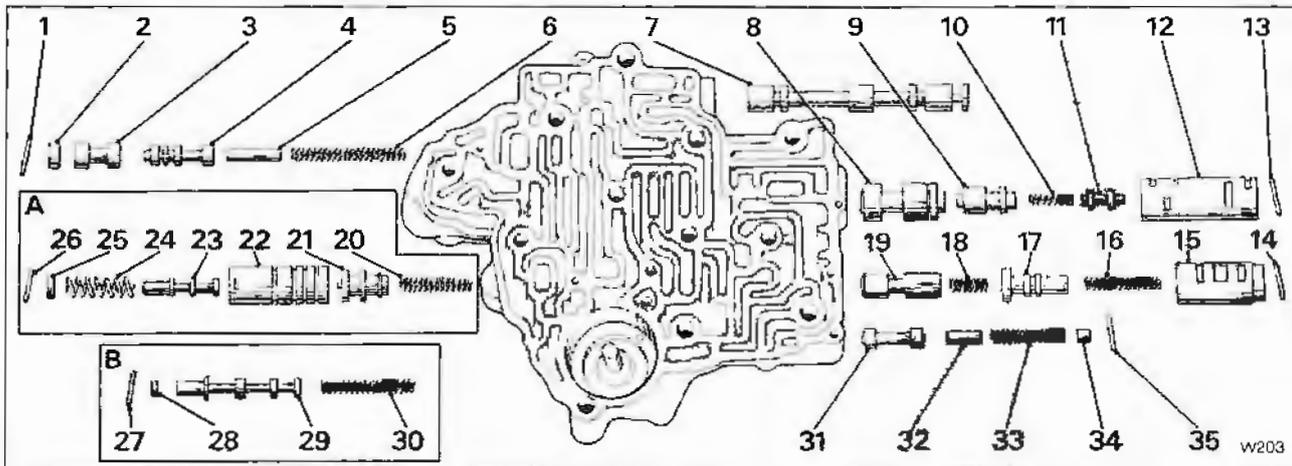

Fig. T13-2 Control valve unit
1. Hold the control valve unit with the cored passages uppermost and the accumulator piston bore to the front, as shown in figure T13-2.
Before commencing assembly, ensure that all springs can be positively identified. If the springs are assembled incorrectly the transmission will not function correctly. During assembly reference should be made to figure T13-2